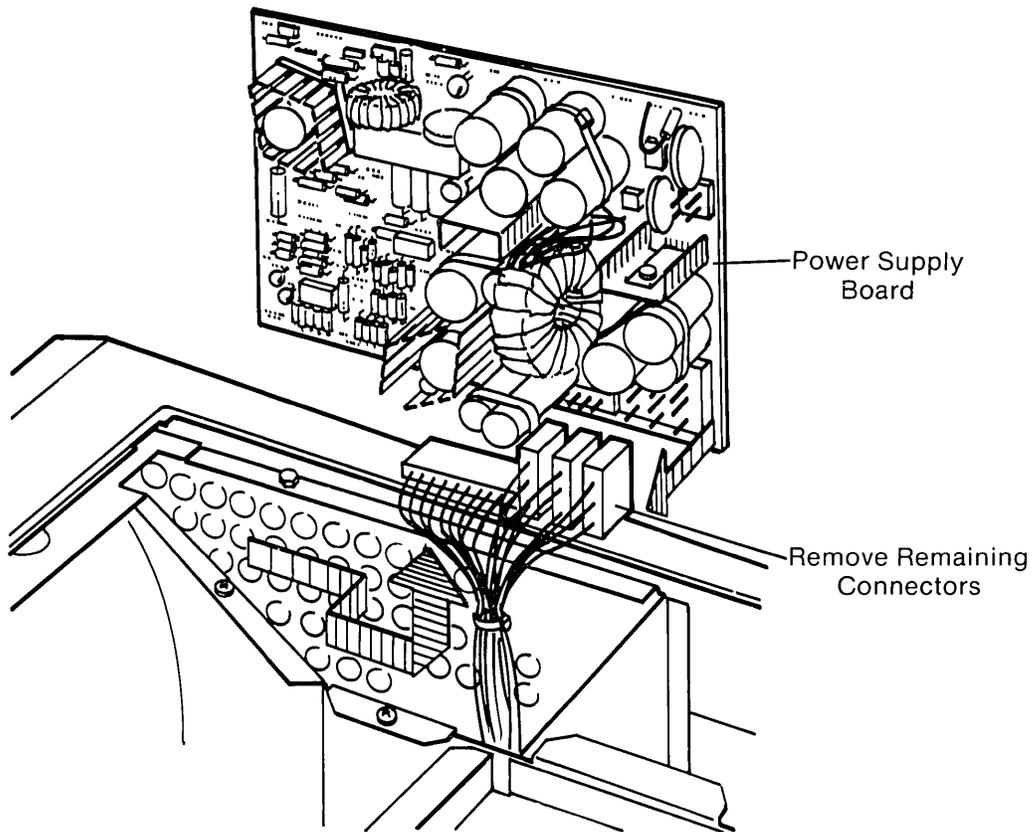

Figure 4-12. Removing the Power Supply Board.
Slide the power supply board toward the rear of the computer to disengage the three (3) standoffs from the slots in the chassis. This will release the power supply board from the system chassis (see Figure 4-12).